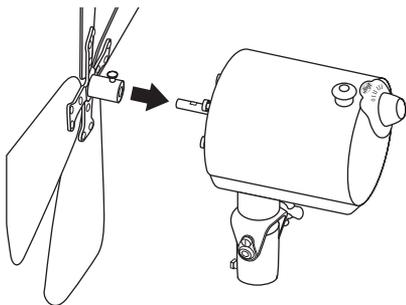

FIGURE 9
24. Slide the Blade Assembly Sleeve over the Motor Shaft, ensuring the Blade Assembly Screw is positioned over the Flat Portion of the Motor Shaft. See Figure 9. Tighten the Blade Assembly Set-screw so that it seats against the Flat Portion of the Motor Shaft. Gently pull the Blade Assembly to ensure it is secure on the Motor Shaft.
NOTE: For clarity, the Back Grille and Interlock Bracket have been removed from Figure 9 to show the Blade Assembly Sleeve/Motor Shaft installation.